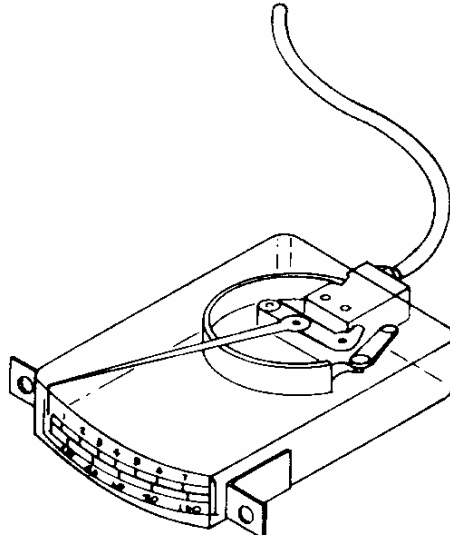

Figure 6-3. Test gauge.
c. **Test Gauge.** Use an A-DEC air pressure gauge with a 0-100psi range for checking air pressure at various points while troubleshooting the system. You also require the following to use this gauge: barbed fitting, washer and sleeve clamp kit, tee barb and sleeve clamp kit, and a two-foot length of 1/8-inch tubing. Refer to figure 6-3.